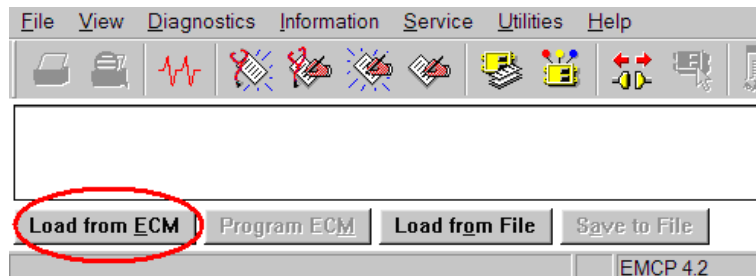

Figure 17.2 – Load from ECM
4. Click “Load from ECM” from the bottom left of the ECM Replacement screen to upload the setpoints. See Figure 17.2.